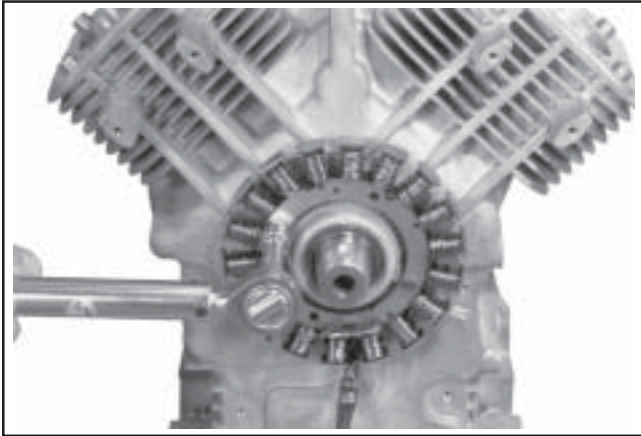

Figure 11-23. Torquing Stator Screws.
3. Install and torque the two hex flange screws to 6.2 N·m (55 in. lb.). See Figure 11-23.